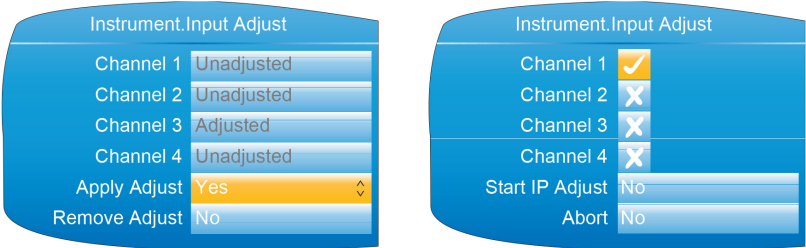

Figure 4.1.9b Channel adjustment procedure (1)
1. As shown in figure 4.1.9b, highlight the ‘Apply Adjust’ field, and operate the scroll key to enter edit mode. Use the up or down arrow key to select ‘Yes’. Use the scroll button to change Channel 1 ‘cross’ to a ‘tick’ (check mark). Similarly select any other channels which require adjustment.